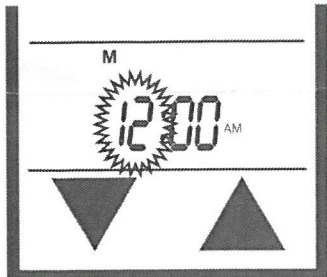

Fig. 5
- Press and hold the **SET** button, or touch the SET section on the touch screen, for 5 seconds. The hour section should begin to flash. (FIG. 5)